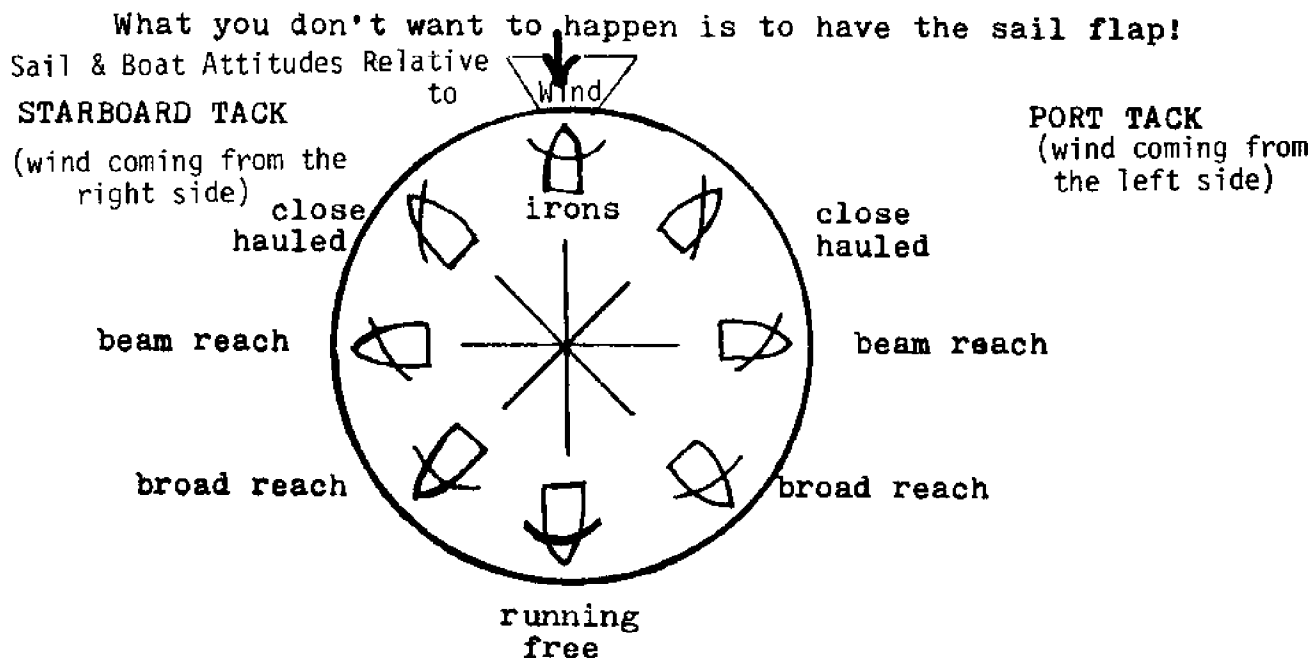

Figure 2. POINTS OF SAIL
- Figure 2 can show you how you can sail in directions other than that in which the wind is blowing. If you go too close to the wind, the sail will start to flap, losing energy, i.e., forward motion. Sailing directly into the wind will push the boat back.